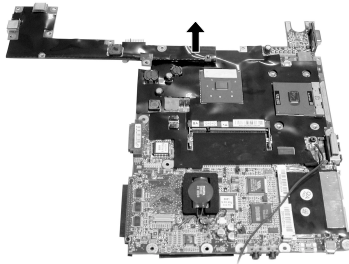

Figure 2-38 Free the system board
7. Now you can separate the D/D board from system board. (Figure 2-38)